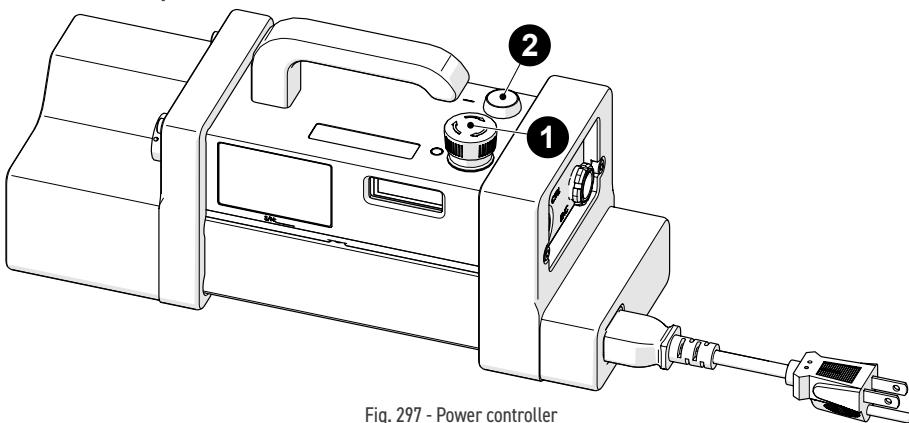

Fig. 297 - Power controller
3. Locate the **1** red emergency stop push-button on the power controller. Rotate this button clockwise to unlatch (Fig. 297).
4. The **2** green push-button on the power controller activates the system (Fig. 297).